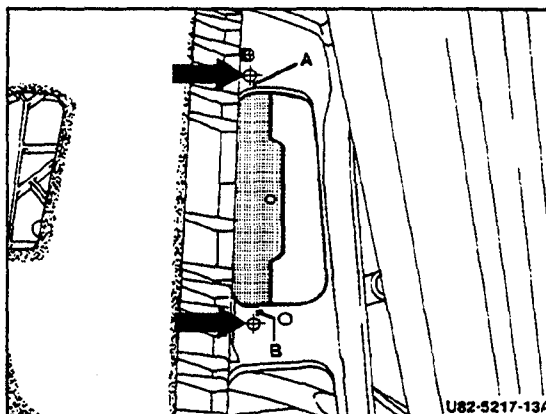

Figure 8
3. Guide TR bracket through reservoir opening. Position bracket in opening as depicted in Figure 8. Securely clamp bracket into place. The two semi-circular cut-outs on the bracket serve as locators for the mounting screws on panel. Position cut-outs over cargo panel mounting screws.
4. Punch and drill two 3 mm holes (arrows, Figure 8). Be certain that you drill through both the frame and the TR bracket. Remove clamp and bracket from opening. Enlarge holes to 4.5 mm. Remove any metal shavings and apply zinc dust paint to bare metal edges.